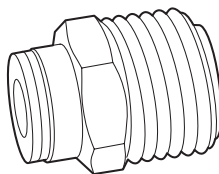

Figure 2-5 Nitrogen Stud
2. Attach a nitrogen regulator to the nitrogen supply, and install the 6-mm stud (Figure 2-5) into the regulator outlet.